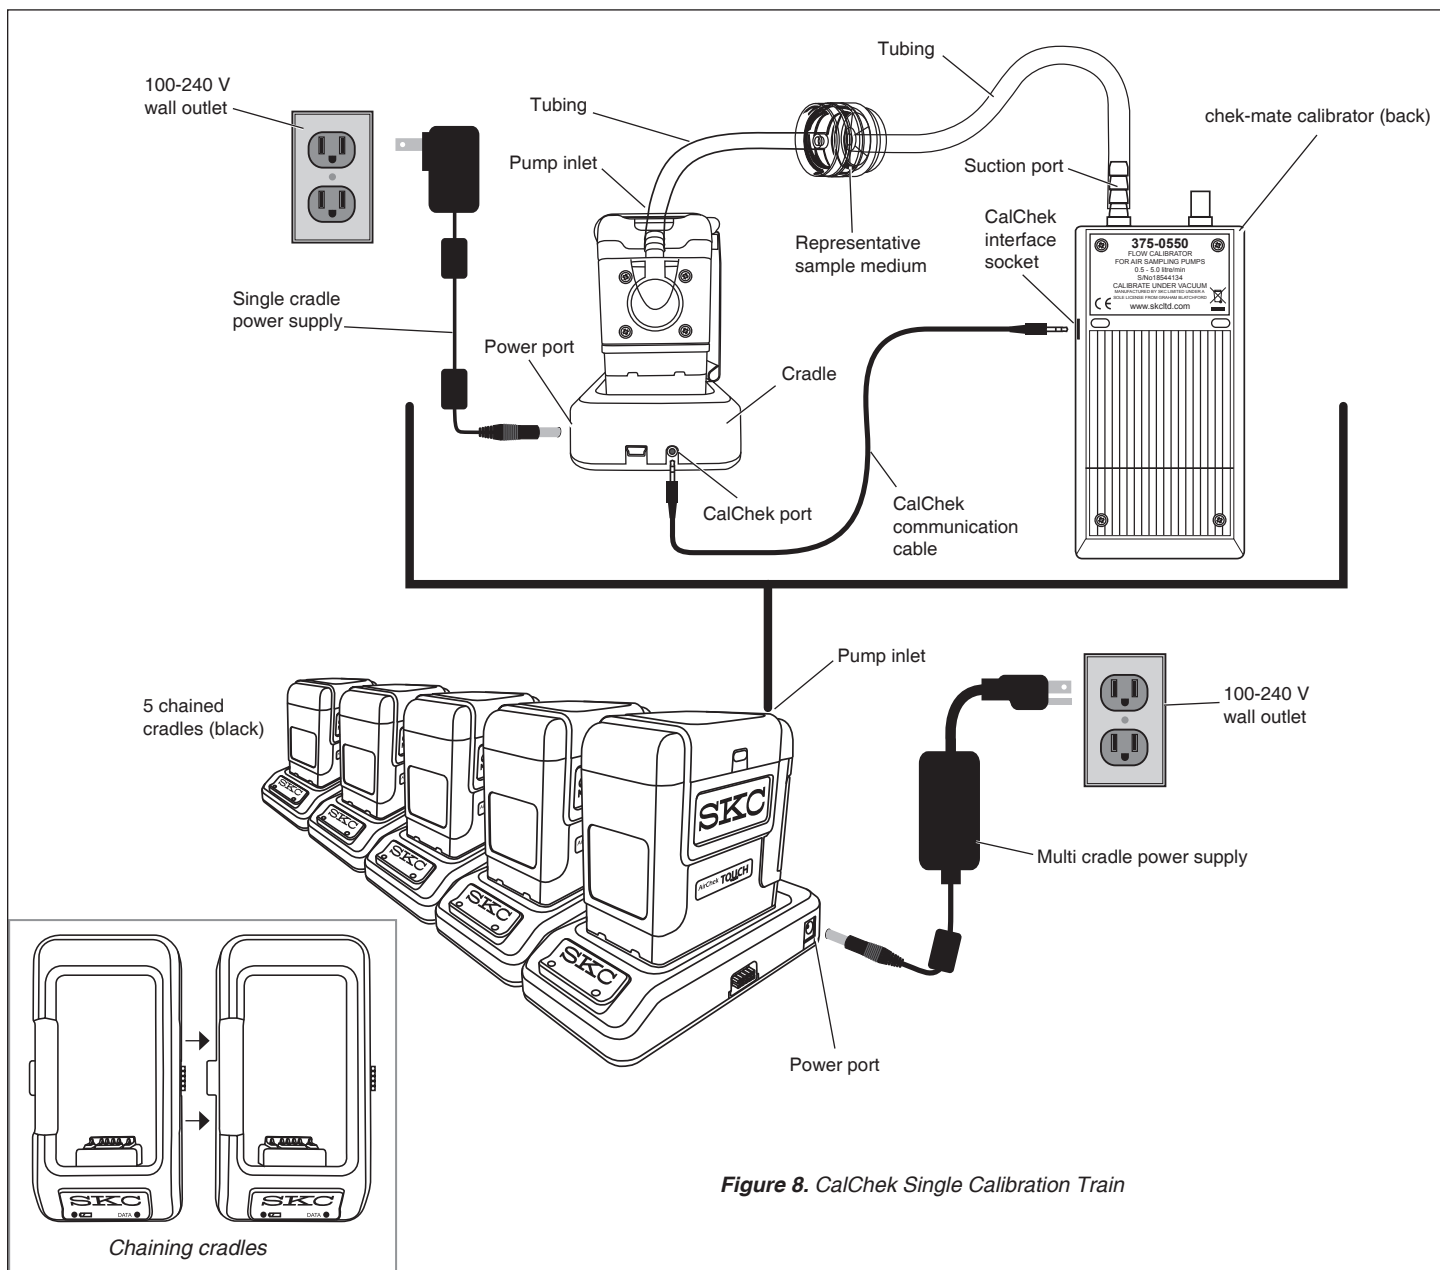

Figure 8. CalChek Single Calibration Train
2. Set up a calibration train (see Figure 8).
4. Ensure calibration train is in place (see Figure 8). Touch checkmark to accept CalChek selection.